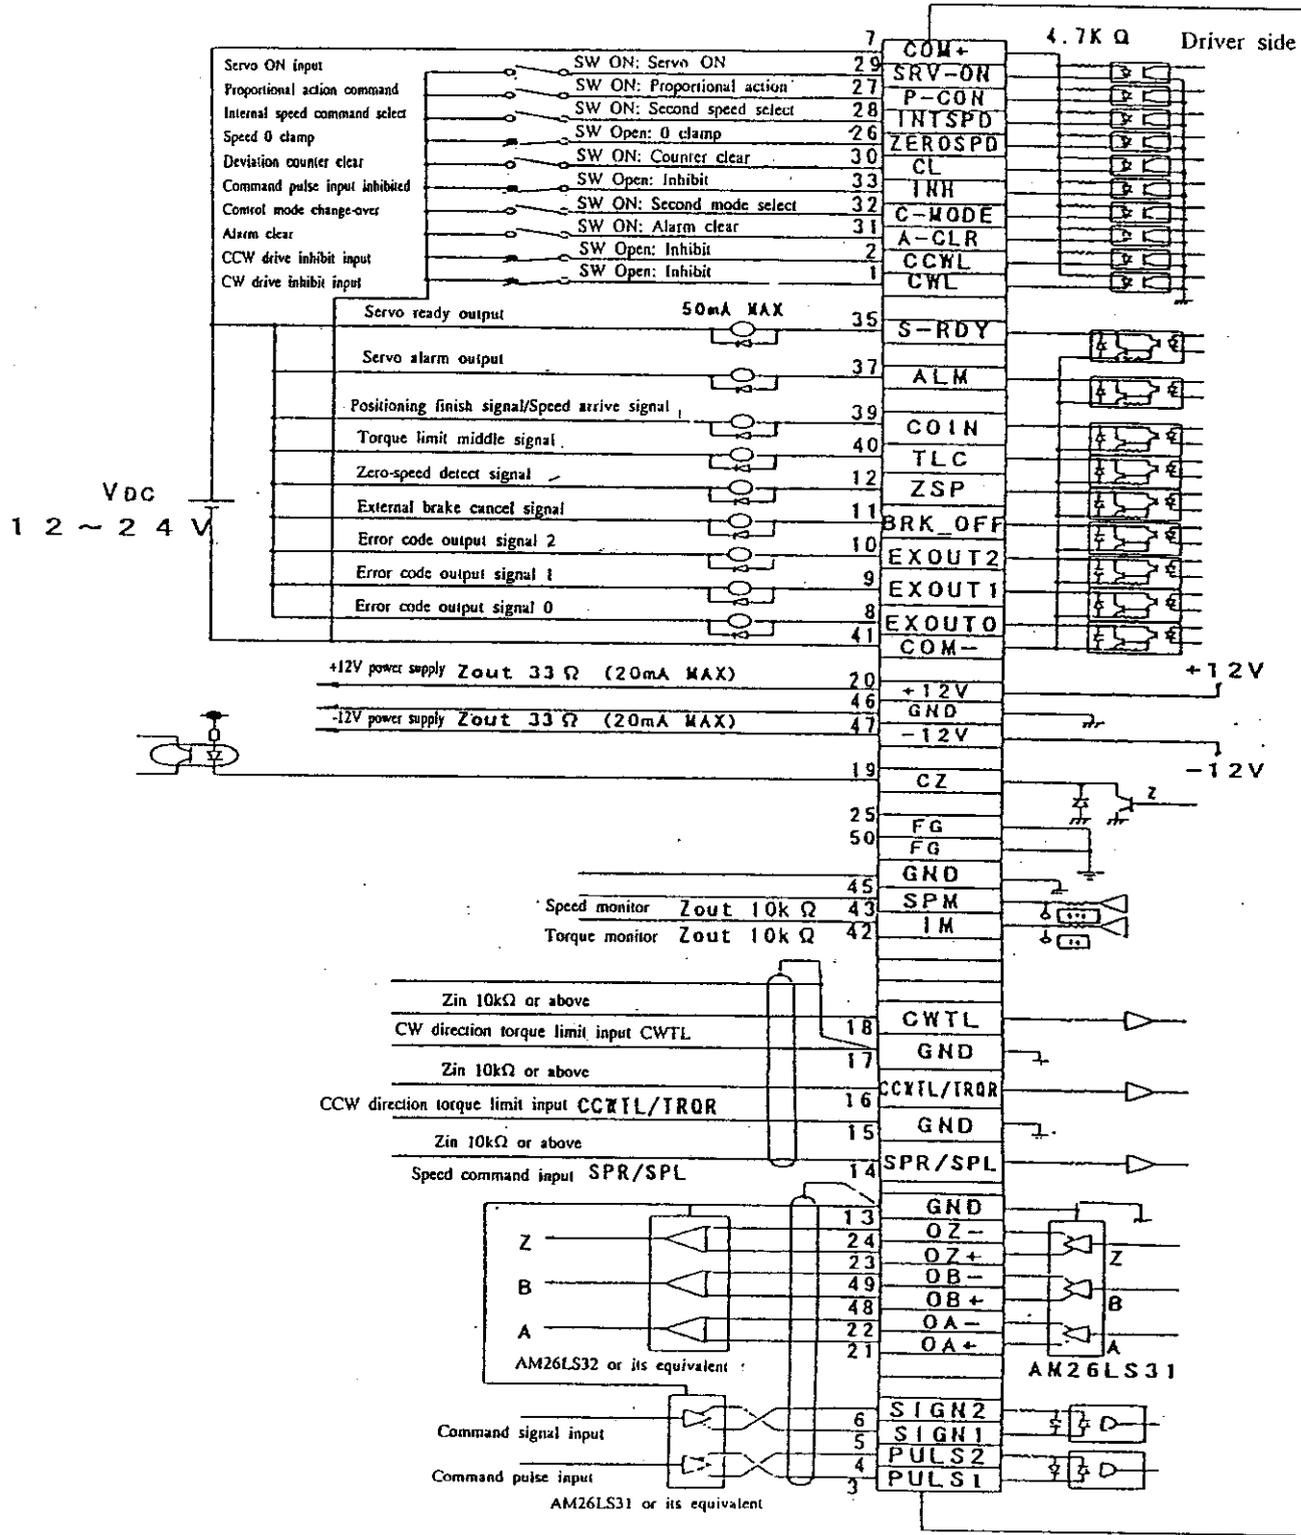

Fig. 5-2 Example of wiring to connector CN I/F
- (1) Please make wiring per Fig. 5-2, "Wiring example to connector, CN I/F".
- (2) Please prepare a power supply for a control signal with DC12-24V, used for external control connected between COM + and COM -.
- (3) Please shorten the wiring of the driver and other equipment as much as possible (3 m or shorter).
- (4) Please separate this wiring from the power lines (R, S, T, r, t, U, V, W, \oplus), as much as possible (30 cm or more). Please avoid passing both wires into the same duct or binding them together. It may cause malfunction.
- (5) Please do not apply more than DC 24V or 50mA, to each terminal of the control output (S-RDY, ALM, COIN, TLC, ZSP, BRK-OFF, EXOUT2, EXOUT1, EXOUT0), or avoid applying reverse polarity. This may cause damage to the driver.
- (6) If you directly drive a relay with the control output terminals, please install a diode in parallel with the relay as Fig. 5-2 shows. If you do not install a diode, or install it in reverse direction, this may cause damage to the driver.
(7) As per Fig. 5-2, please use shielded, twisted pair wires for a signal line of CN I/F (analog command input, command pulse input, feed-back pulse output of the encoder etc.). Please ground the shield to the signal ground (GND) of the driver. (Though the shield of other equipment normally open, in case affected by extreme noise, connect shield of both driver and other equipment to frame ground.)
(8) Frame ground terminal (FG) is connected with the earth terminal (\oplus) in the driver.